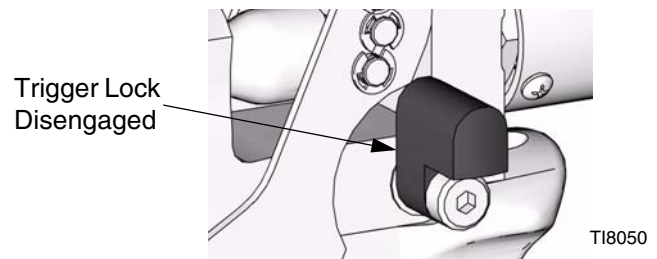

FIG. 7: Trigger Lock Disengaged
3. Hold a metal part of gun firmly to side of a grounded metal waste container. Disengage gun trigger lock. See FIG. 7. Trigger gun to relieve fluid pressure.
To disengage trigger lock, rotate it upward. See FIG. 7.